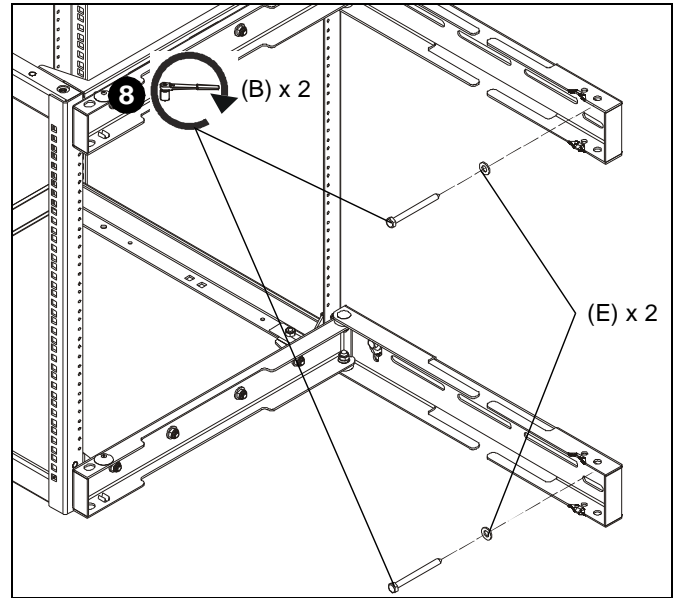

Figure 5
8. Use two 5/16" x 3 1/2" lag bolts (B) and two 3/4" spacers (E) to secure opposite side of bracket to wall. (See Figure 5)